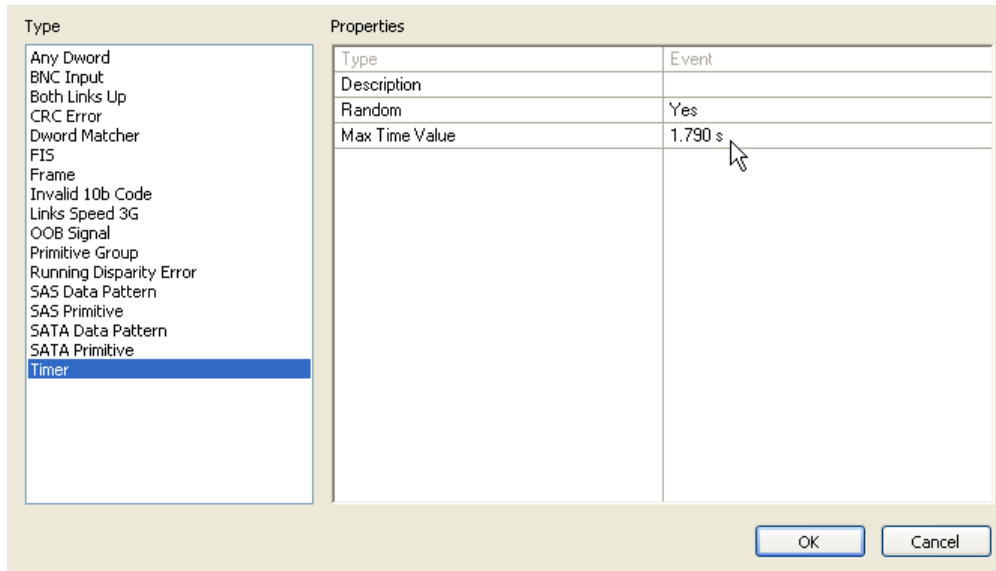

Figure 5.32 Example 6: Event Drop-Down List
- Step 4** The Event Properties dialog box appears (Figure 5.32). In the Type column on the left, choose **Timer**. Set the timer for random timing with a maximum time limit of 1.790 seconds.